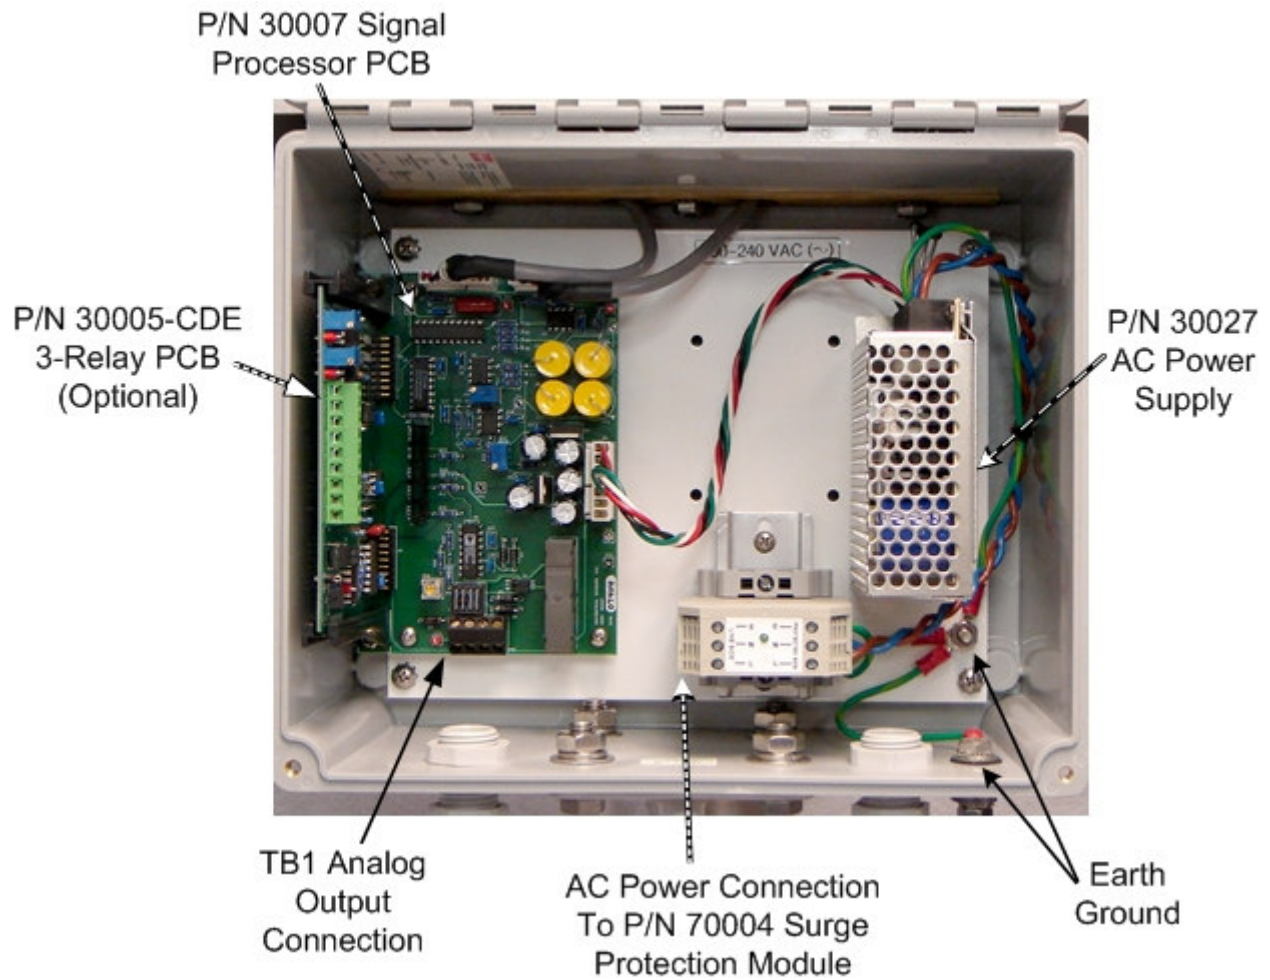

Figure 1.3-2 Main Enclosure Components (AC Power Version)
- AC Power Version – See Table 1.3-2 and Figure 1.3-2 below: